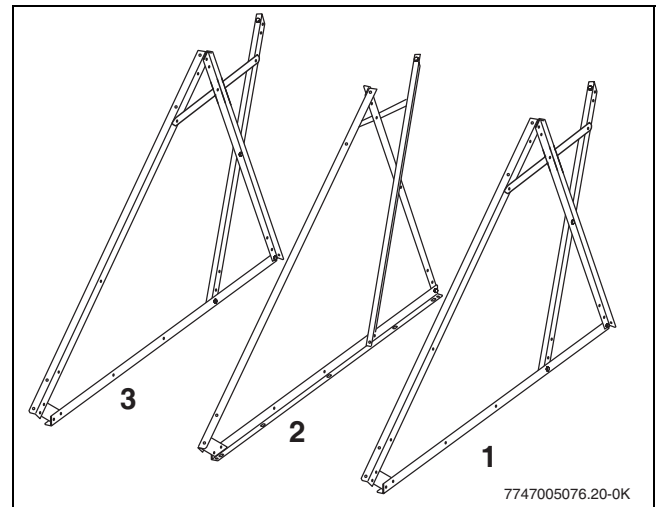

Fig. 13 Further side triangles
- the centre triangle (Fig. 13, [2]) as a mirror image of the first [1],
- the left triangle (Fig. 13, [3]) the same as the first side triangle [1].